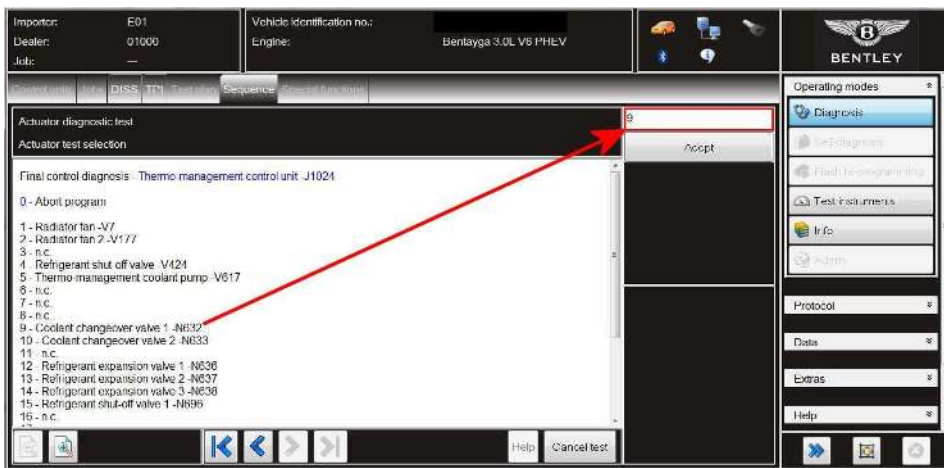

Figure 3
3) Referring to Figure 3 – insert/type 9 (Coolant changeover valve 1 -N632) into the options box